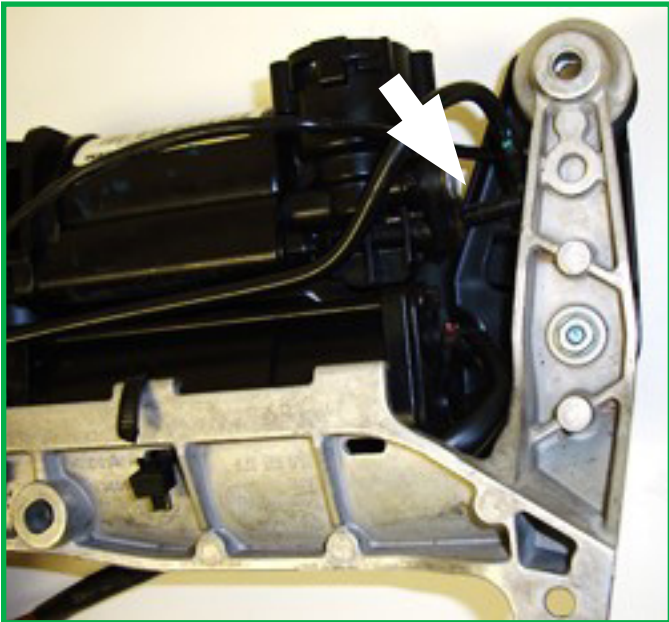

FIGURE 10
10. Disconnect the line from the compressor dryer by depressing the collar while pulling on the hose. (Identified as “P” on the air valve block) (Does not need to be disconnected at air valve block). (Figures 10, 11)